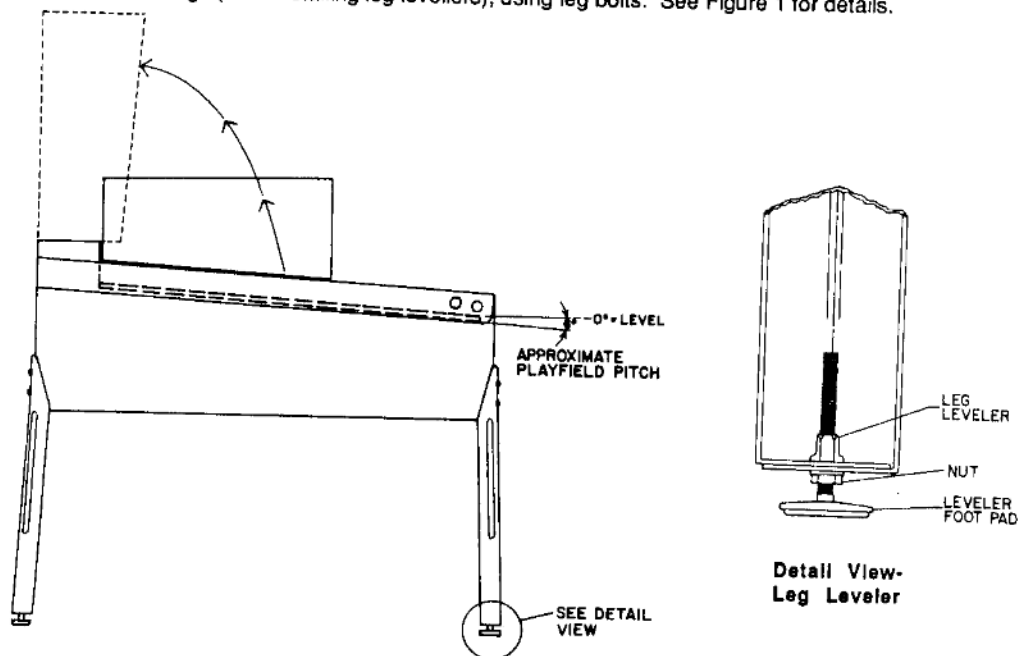

Figure 1. Pinball Assembly, Playfield Pitch Angle, and Leg Leveler Details.
3. Attach the front legs (after installing leg levellers), using leg bolts. See Figure 1 for details.
7. Adjust the leg levelers for proper playfield level (side-to-side) and playfield pitch angle (incline) of approximately 6 degrees. (Again, it is recommended that these measurements be made ON the playfield, not the cabinet nor the playfield cover glass.) Tighten the nut on each leg leveler shaft to maintain this setting, as shown in Figure 1.